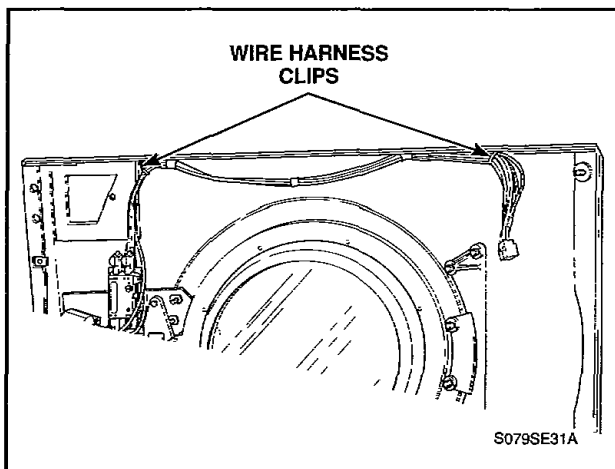

Figure 21
- q. Remove screws holding door hinge to front panel, *Figure 21*.
- g. Remove two wire harness clips from top flange of front panel, *Figure 21*.